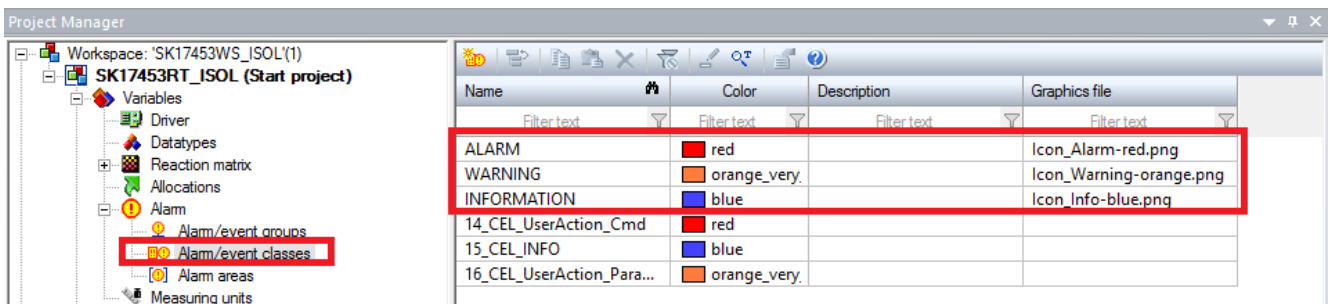

Figure 7.11: Creation of the classes for each part of the installation
2. **Alarm classes** For us will be divided into *ALARM*, *WARNING* and *INFORMATION*. Fig. 7.11